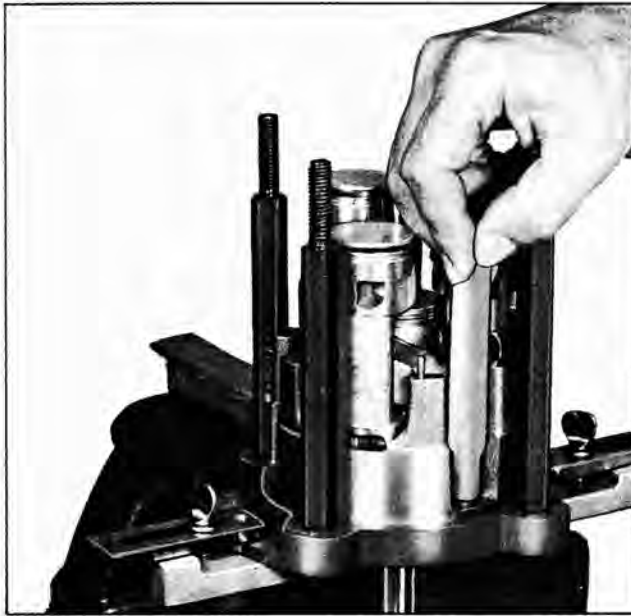

Fig. 5-88 Installing Service Discharge Crossover Tube
3. Assemble one end of service discharge cross-over tube into hole in front cylinder (Fig. 5-88).